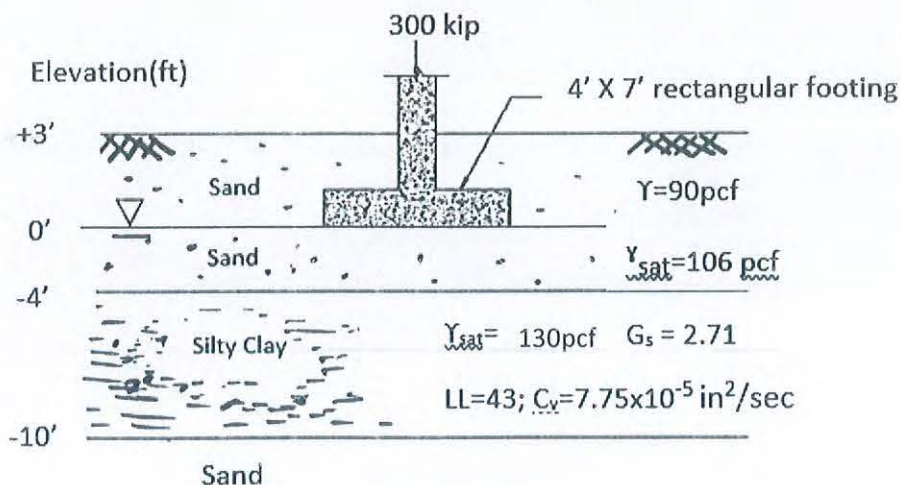

Fig. 2
- b) A footing is placed on a sandy layer underlying a normally consolidated silty clay stratum, with properties shown in **Fig. 2**.